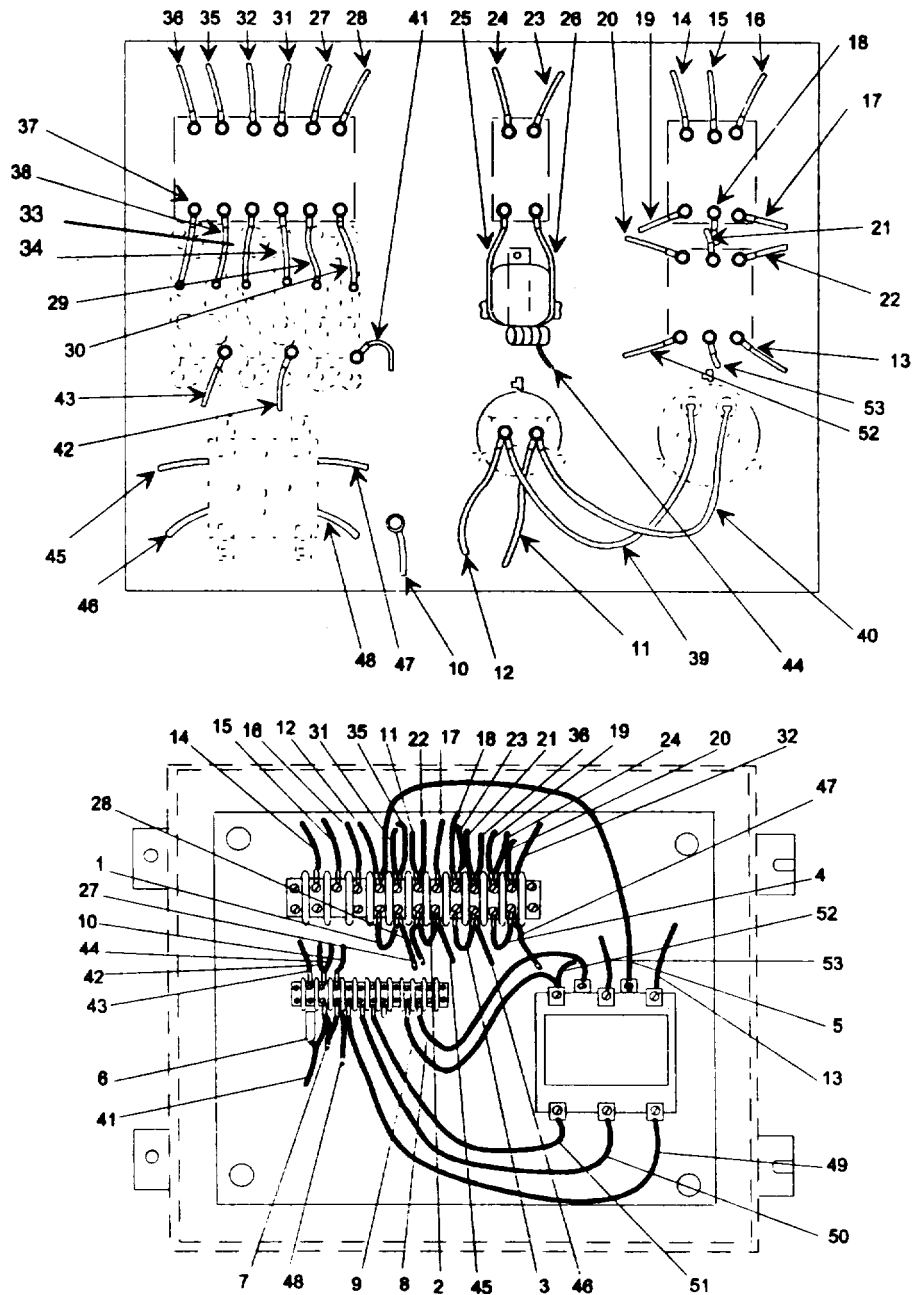

Figure 5-26. Control Panel Cable Assemblies.
### **a. Disassemble.** (Refer to figure 5-26.)
- (1) Refer to table 5-12 for control panel cable assemblies wire run list and table 5-13 for control panel cable assemblies wire run parts list. Repair consists of either replacement of a wire run or replacement of a defective wire harness terminal.
- (2) To assemble a new wire run, refer to tables 5-12 and 5-13. Identify type of wire harness terminals and type/length of electrical wire needed. Construct a new wire run and test for opens/shorts.
- (3) To replace a defective wire run harness terminal, inspect the wire run per paragraph c, preceding, and locate the defective wire run terminal. Refer to table 5-12 to determine the wire run terminal needed and to table 5-13 for the part number of the wire run terminal needed. Uncrimp the defective terminal and crimp the replacement terminal.
- (4) Repair of attaching hardware is by replacement of authorized parts (TM 9-4940-262-23P) which are determined to be defective.
**d. Installation.** (Refer to figure 5-26.)
- (1) Place cable assembly in control panel and locate wire terminals to appropriate electrical component terminal.
- (2) Loosen electrical component terminal screw and secure cable assembly wire terminal/tinned wire.
- (3) Remove and discard tags. Secure cable assembly with tiedown straps.